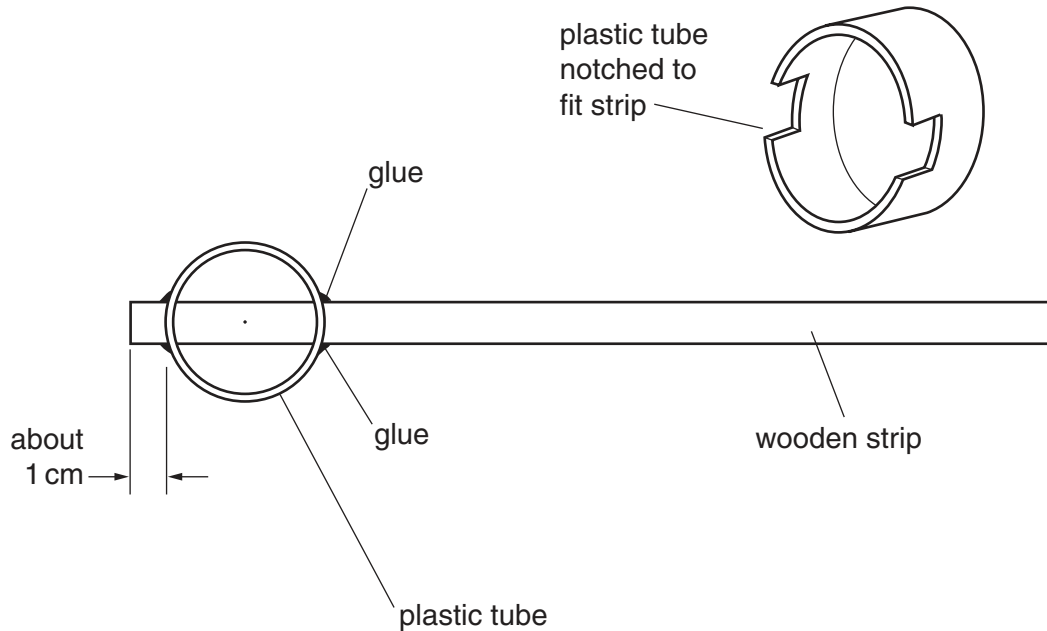

Fig. 1.1
- Notch the tube and glue it securely near to one end of the wooden strip as shown in Fig.1.1.